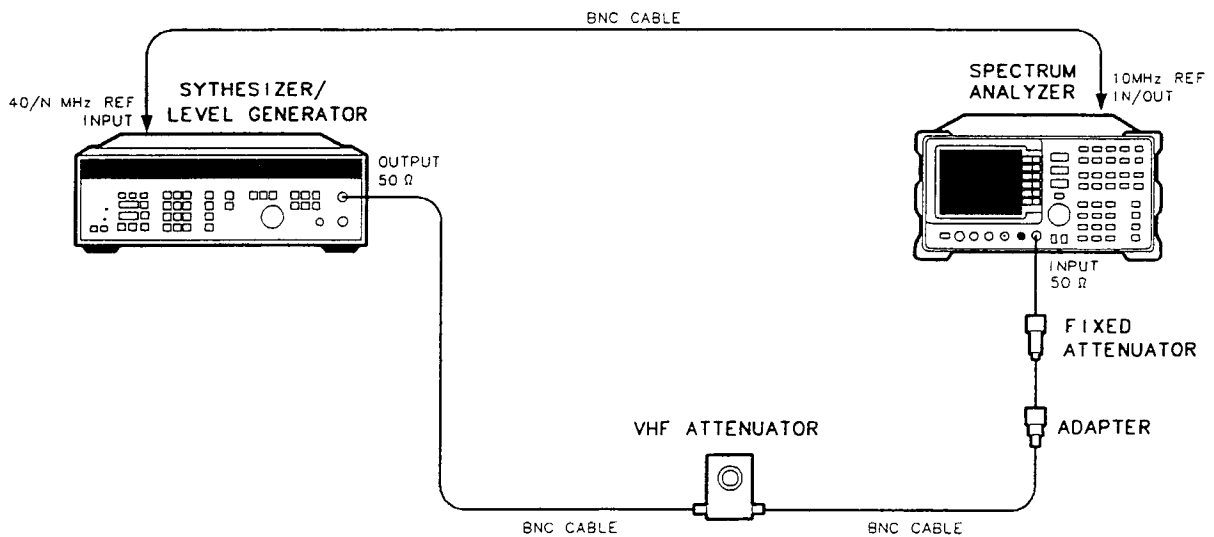

Figure 3-9. IF Gain Uncertainty Test Setup
1. Connect the equipment as shown in Figure 3-9. The spectrum analyzer under test provides the frequency reference for the HP 3335A.